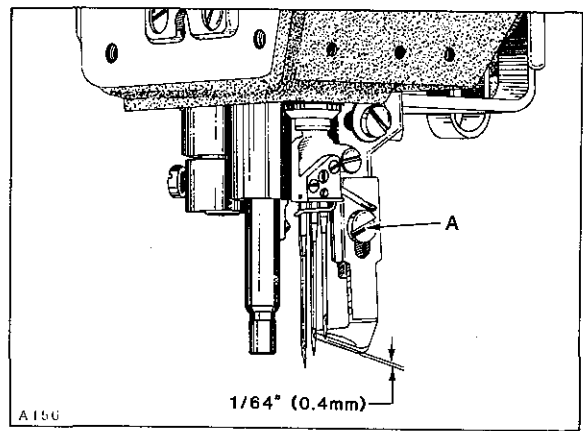

Fig. 26
With needle bar at TOP of stroke, height of stationary spreader thread guide should be positioned with its UNDERSIDE PORTION (laterally in line with needles)  $1/64$  inch (0.4mm) below the TIP OF RIGHT needle as shown in Figure 26. Adjustment can be made by loosening screw (A), reposition as required...